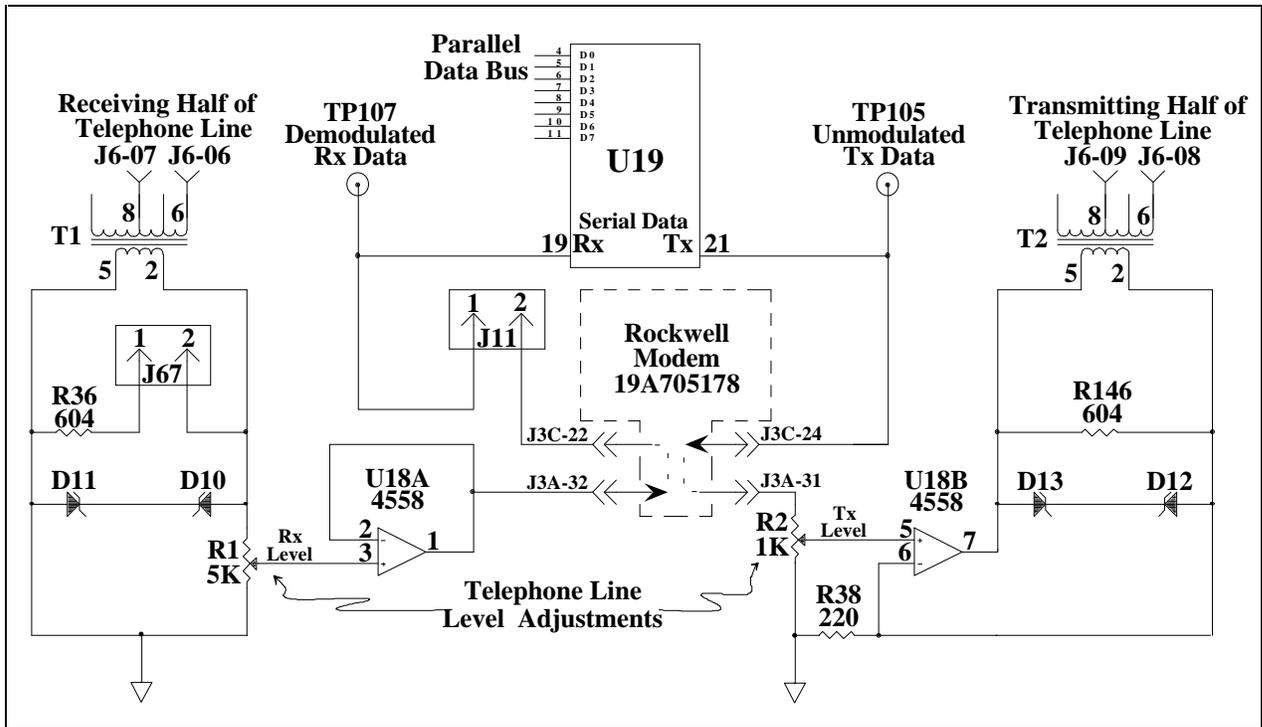

Figure 3 - GETC Phone Line Level Adjustments
3. Adjust the receive level by monitoring U18 pin 1 (refer to Figures 3 and 4) and adjusting the receive level potentiometer R1 (located on the GETC Logic Board) for 400 mVpp as measured with an